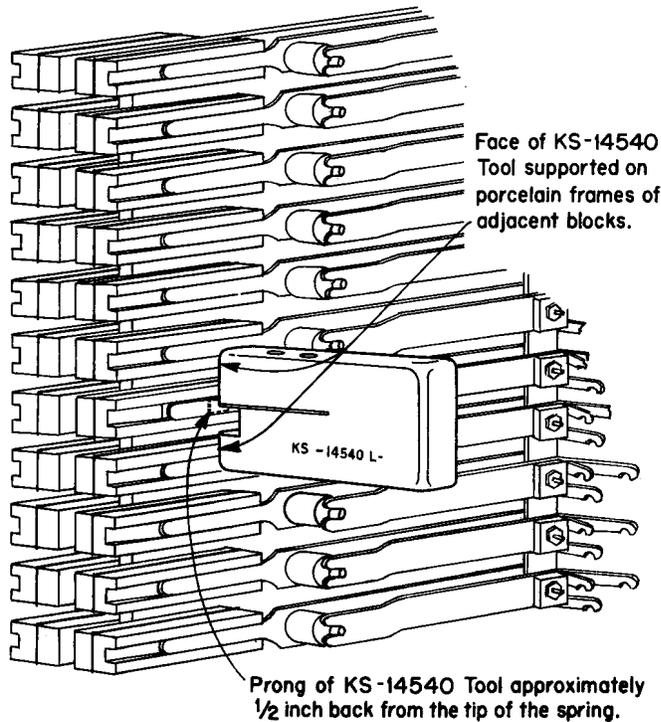

Fig. 1—Method of Using KS-14540 Tool
- (1) Insert the metal prong of the KS-14540 tool under the front end of the protector spring and raise the spring about 1/8 inch. Slide the tool along the spring approximately 1/2 inch, taking care not to dislodge adjacent protector blocks.
- (2) Allow the spring tension to draw the tool toward the protector, noting that the fibre legs of the tool rest on the porcelain frames of the adjacent blocks (Fig. 1).
- (3) With the tool in place, as shown in Fig. 1, remove the block by hand.
- (4) Reverse the procedure to place the blocks in the protector mounting.